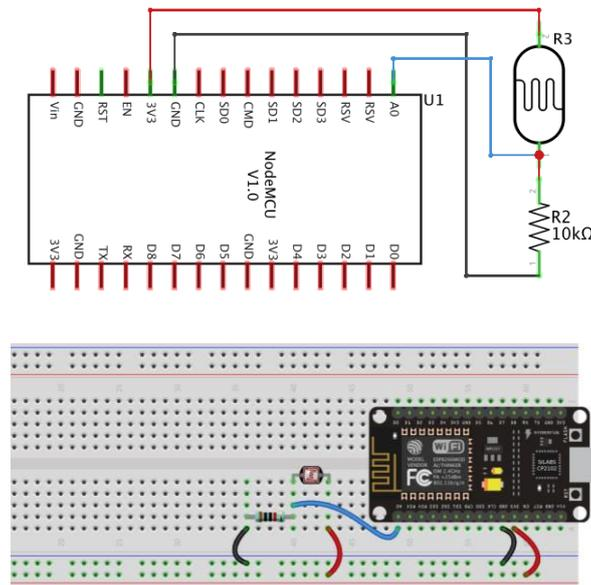

Figure B5
23. Construct the following circuit of light sensor (LDR) as shown in Figure B5.